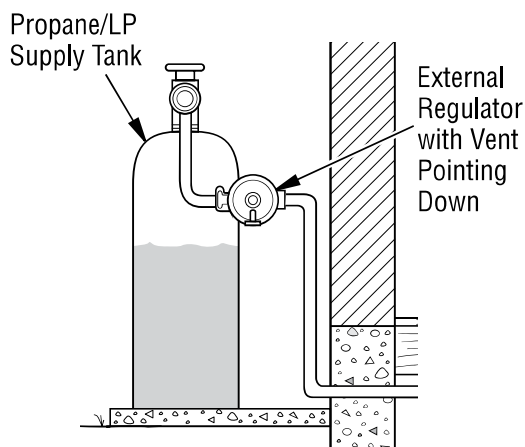

Figure 12 - External Regulator With Vent Pointing Down
* An equipment shutoff valve with 1/8" NPT tap is an acceptable alternative to test gauge connection. For propane/LP units, the installer must supply an external regulator. The external regulator will reduce incoming gas pressure. You must reduce incoming gas pressure to between 11" and 14" of water. If you do not reduce incoming gas pressure, heater regulator damage could occur. Install external regulator with the vent pointing down as shown in **Figure 12**. Pointing the vent down protects it from freezing rain or sleet.